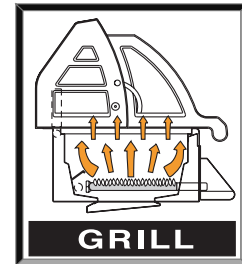

Fig. 14a
- The powerful **Main burners** deliver the middle and high range of temperatures desired for traditional barbecuing. This includes searing and finishing steaks, hamburgers, pork chops and the like, or grilling chicken parts, sausages, or kebabs with more moderate heat (see Fig. 14a).